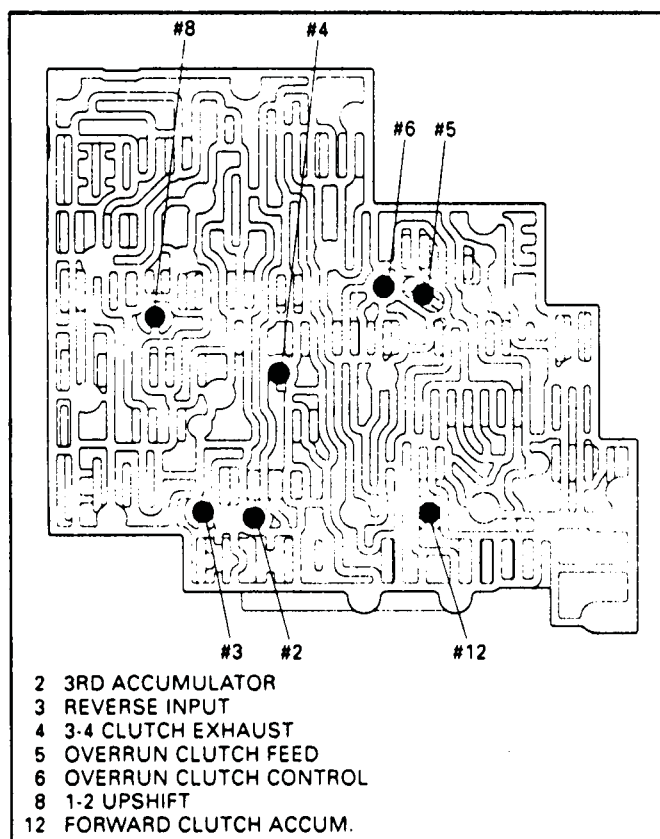

Figure 45
36. There are seven checkballs located in the valve body, all of which are .250" in diameter, and their locations are shown in Figure 45.